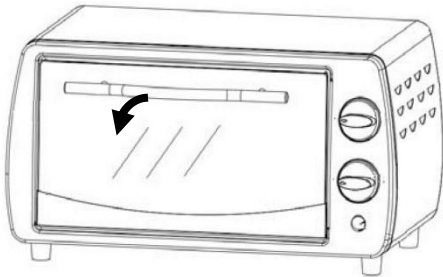

Fig. 3
- How to open and close the door – See figs. 3 & 5